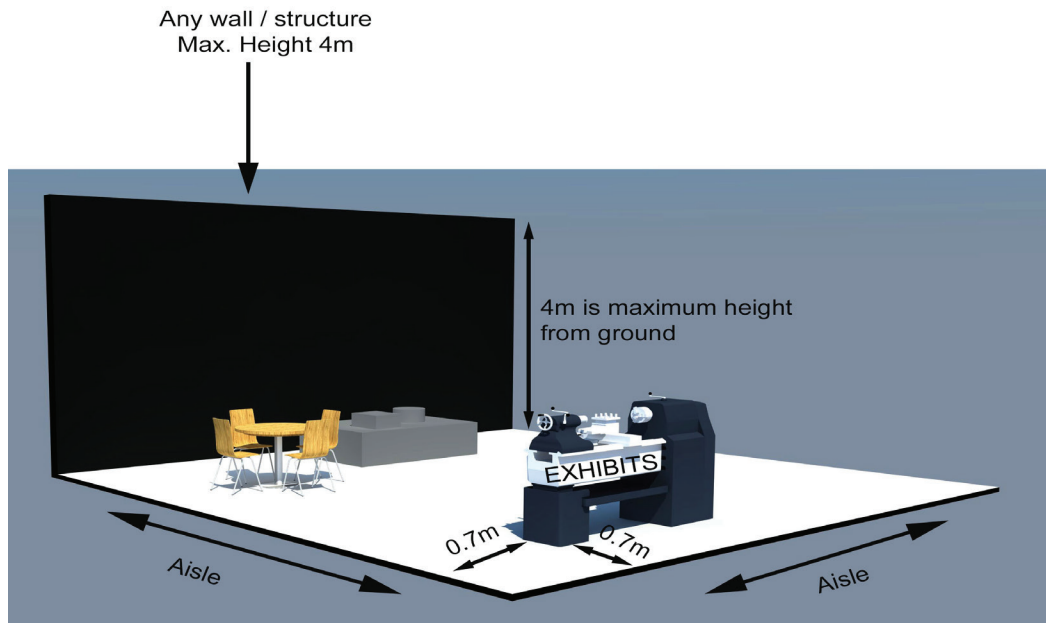

Figure 2
- The maximum height of any structure/display should not exceed 4m. (see figure 2)